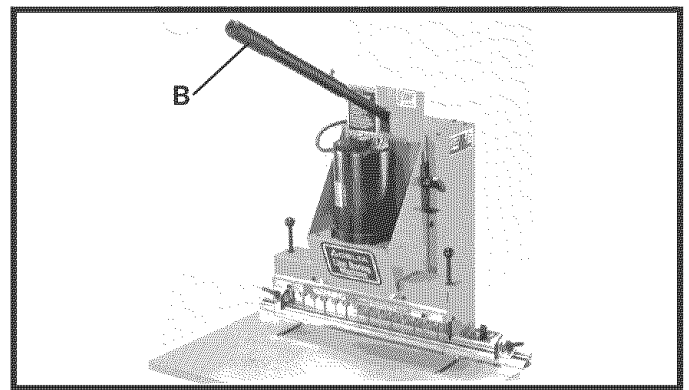
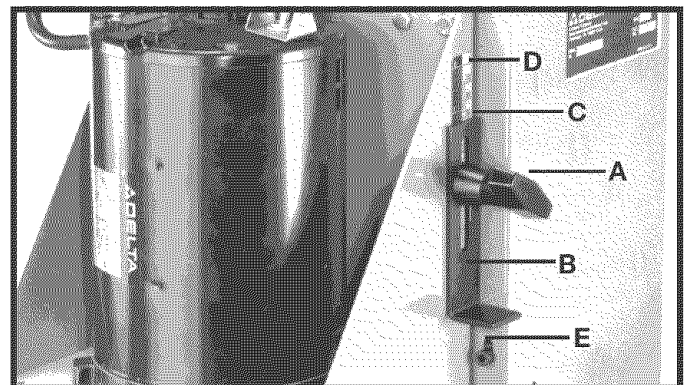

Fig. 50
Fig. 51
For extra leverage when boring holes, the handle (B) Fig. 50, can be pulled out as desired to increase leverage, as shown. To move the handle (B) out of the way when not in use, simply push in on handle.
A stop is provided to set the depth of the boring bits above the table surface. To control the downward travel of the boring head, loosen lock knob (A) Fig. 51, and move stop bracket (B) up or down until edge (C) of stop bracket lines up with the desired mark on scale (D) you wish the boring bits to be above the table surface at the completion of the boring operation. Then tighten lock knob (A). A stop screw (E) is provided to stop the boring head from lowering when bottom of stop bracket (B) contacts stop screw (E). There is another stop (A) Fig. 51, provided on the left side of the machine to insure an even depth across the line of holes to be bored. Set the stop on the left side of the machine after the stop on the right side of the machine has been set. Lower the boring head until it contacts the stop that has been set on the right side of the machine and set the left side stop accordingly.
1. Set the bracket (B) Fig. 51, so that the edge (C) aligns with the "0" mark on the scale (D).
2. Pull down on the handle (B) Fig. 50, the stop bracket (B) Fig. 51, should contact the stop screw (E) Fig. 51 at the same time that the bits touch the table.
3. If the bits do not touch table, loosen the stop screw (E) Fig. 51 and adjust the stop screw up or down to just touch the stop bracket at the same time that the bits touch the table, and tighten the stop screw (E).